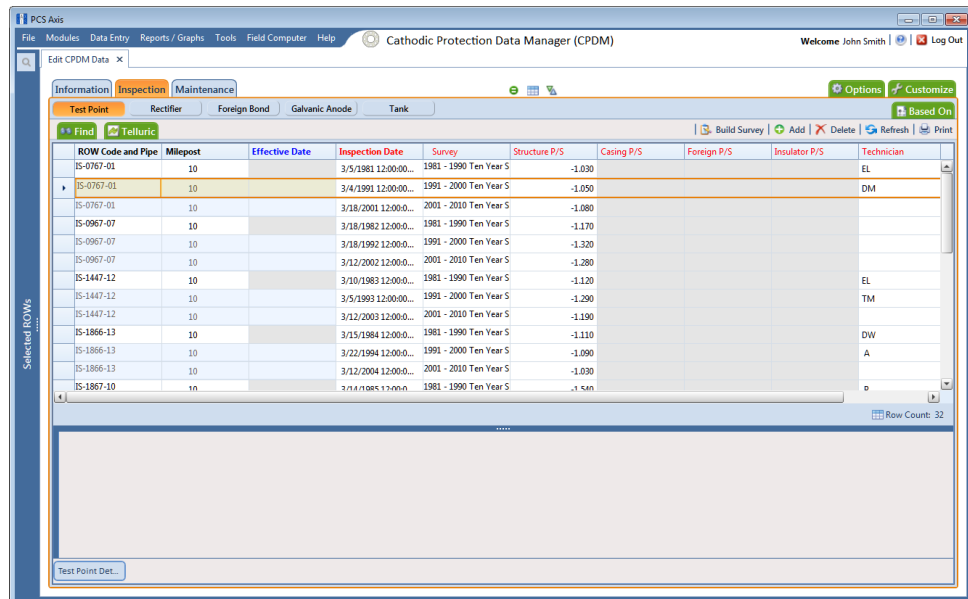

Figure 7-39. Test Point Inspection Grid
- 3 Select a data entry grid. For example, click the **Inspection** tab **Inspection** and then the **Test Point** button **Test Point** to display the *Test Point Inspection* data entry grid (Figure 7-39).